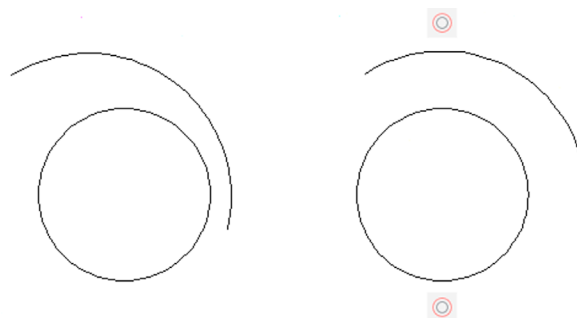

FIGURE 13.13 Geocentric geometric constraints.
Step 1. Draw a circle, then an arc above it, as seen in Fig. 13.13 (left).
Immediately after the selection of the arc, you see one or both snap to a concentric setting (their centers are the same), as seen in Fig. 13.13 (right). Note that, if you were to select the arc first, the circle would adjust to it, not the other way around. Once again, selection order matters.